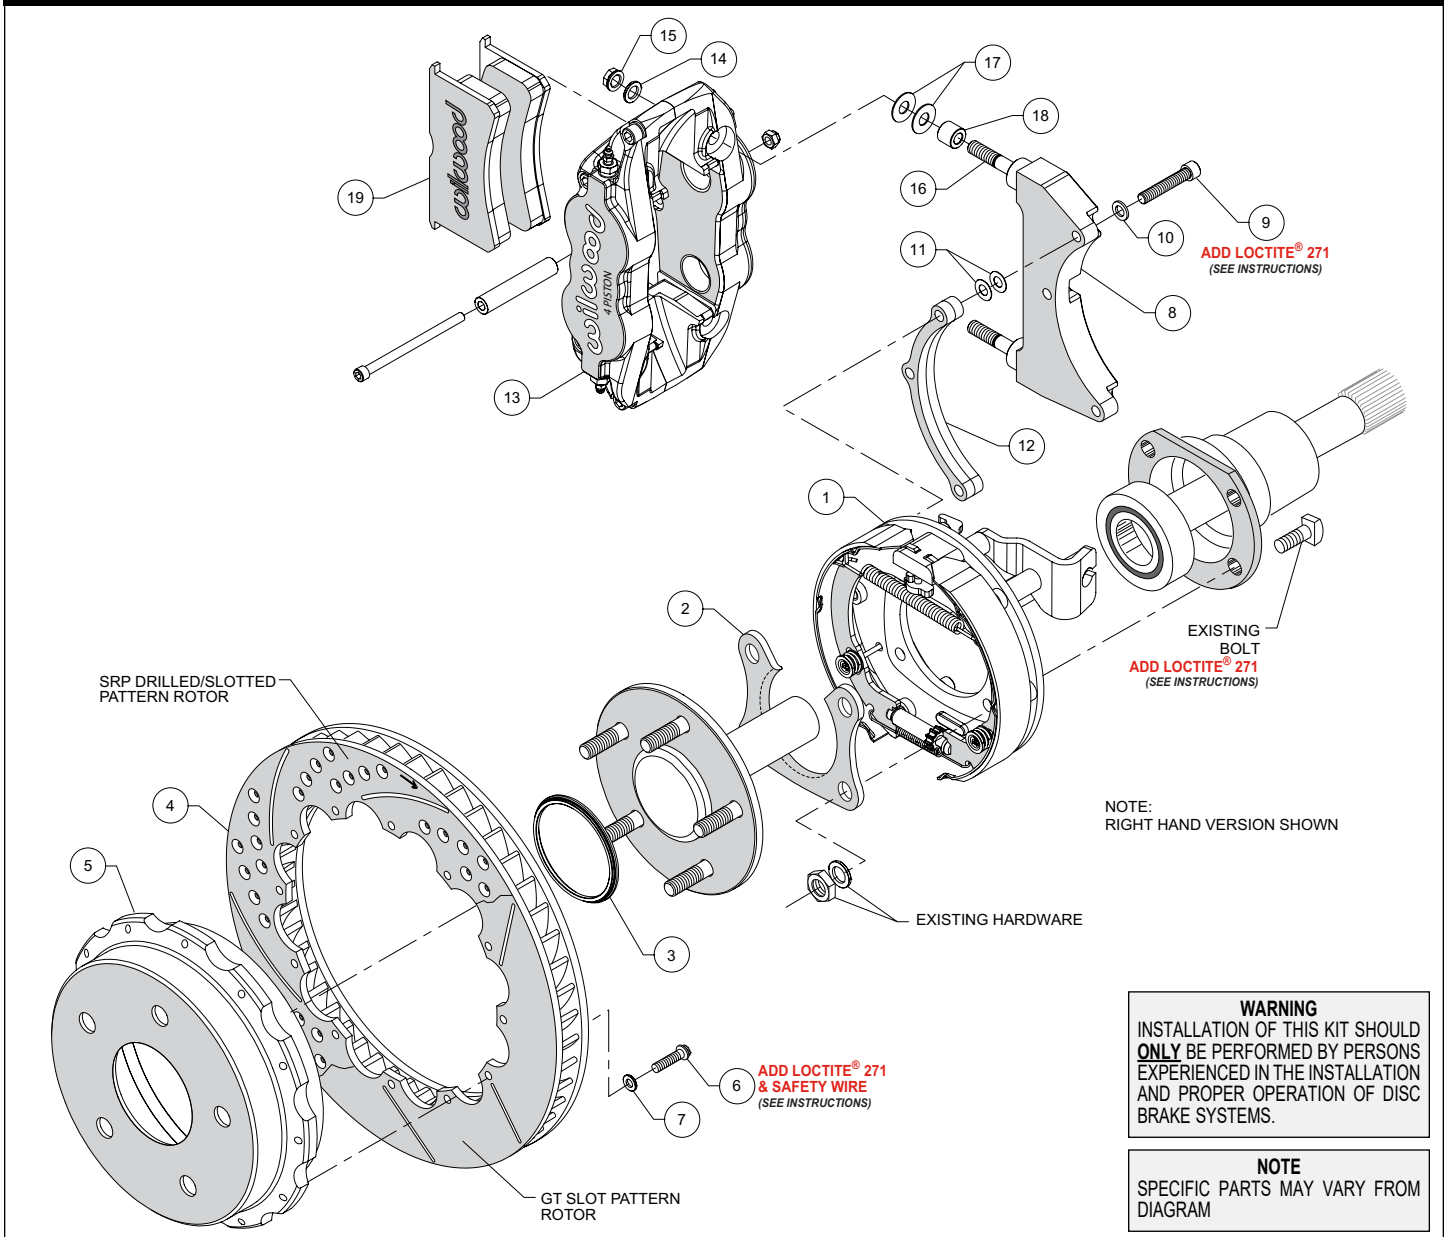
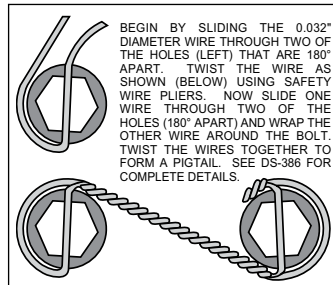

Figure 1. Typical Installation Configuration
Figure 5. Safety Wire Diagram
Assembly Instructions (numbers in parenthesis refer to the parts list, and Figure 1 on the preceding pages): **CAUTION:** All mounting bolts must fully engage clinch nuts. Be sure to check that all bolts are either flush or protruding through flanged side of clinch nut after shimming.
- Orient the bracket assembly (1) as shown in Figure 1 and Photo 1 and slide it onto the axle. Insert the axle and bracket into the axle housing. Ensure that the bracket assembly backing plate fits flush against the axle housing flange.
- Install the bearing retainer (2) with the opening pointing upward and the lip facing inward (toward the bearing), as shown in Figures 1 and 4, and Photo 2. Secure retainer and bracket assembly to the axle housing flange using the Original Equipment Manufacturer (OEM) bolts, washers, and nuts, Figure 1. Apply red *Loctite*® 271 to the OEM bolt threads and torque to OEM specifications.
•**NOTE:** Please reference the caution statement at the beginning of the assembly instructions. The caliper mounting bracket (8) should initially be installed with clean, dry threads on the mounting bolts. Orient the bracket as shown in Figure 1 and Photo 3, and install using bolts (9) and flat washers (10). Initially place two .015" shim washers (11) on each bolt between the bracket (8) and spacer (12), Figure 1. Temporarily tighten the mounting bolts. **NOTE:** End of bolt should not exceed inside face of insert. The bracket must tighten squarely against the back side of the bracket kit assembly (1). Inspect for interference from casting irregularities, machining ridges, burrs, etc. Later, after the caliper alignment has been checked, the mount bolts will be secured using red *Loctite*[®].
•Orient the rotor (4) and the hat (5) as shown in Figure 1 and Photo 4. Attach rotor to hat using bolts (6) and washers (7). Apply red *Loctite*[®] 271 to the bolt threads and torque to 140 **in-lb** using a criss-cross pattern. For an added measure of security, the bolts may be safety wired using standard 0.032 inch diameter stainless steel safety wire as shown in Figure 5. Please refer to Wilwood's data sheet DS-386 (available at www.wilwood.com/Pdf/DataSheets/ds386.pdf) for complete safety wire installation instructions.
•Slide the rotor registration adapter (3) onto the axle register on the axle flange with the smaller O.D. facing toward the rotor/hat (4/5), Photo 5. Align the hole pattern in the hat with the stud pattern on the axle flange and slide into place, Figure 1 and Photo 6. **NOTE:** The rotor/hat must fit flush against the axle flange or excessive rotor run out may result. Install three lug nuts (finger tight) to keep the rotor/hat assembly in place while continuing with the installation. **NOTE:** Some OEM and after market axles come with stud sizes larger than 0.50" diameter. Verify stud size and have a qualified machine shop drill the bolt circle of the hat/rotor to the correct stud size, if necessary.
•Initially place two .035" thick shims (17) and spacer (18) on each stud as shown in Figure 1 and Photo 7. Mount the caliper (13) onto the bracket (8) using lock nuts (15) and washers (14), Figure 1. Temporarily tighten the lock nuts and view the rotor through the top opening of the caliper. The rotor should be centered in the caliper, Photo 8. If not, adjust by adding or subtracting shims (11) between the bracket (8) and the spacer (12). Always use the same amount of shims on each of the three mounting bolts. Once the caliper alignment is correct, remove the bracket mounting bolts (9) one at a time, apply red *Loctite*[®] 271 to the threads, and torque to 180 **in-lb**.